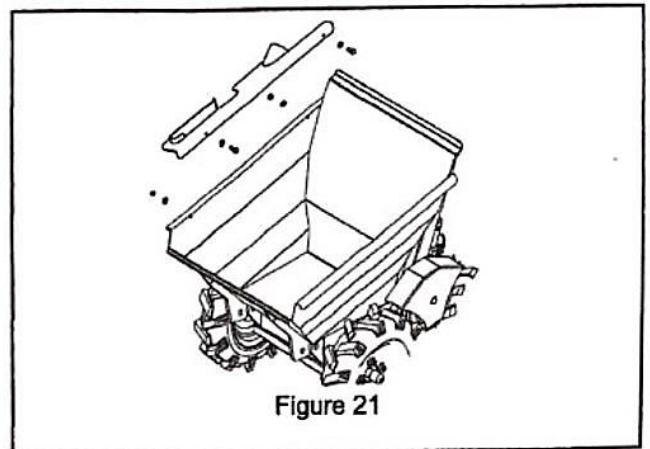

Figure 21
4. Mount handle position bar assembly to skip with two M8 x 20mm hex bolts, four M8 flat washers and two M8 hex nuts (figure 21).